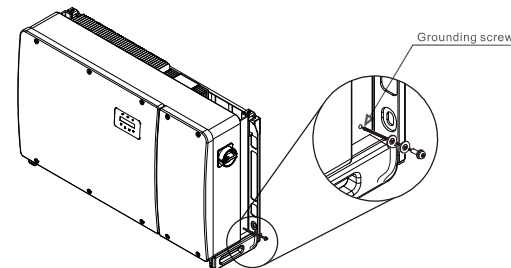

Figure 3.17 Fixed cable
- 6) Connect the grounding cable to the grounding point on the heat sink, and tighten the grounding screw, Torque is 6-8Nm(see figure 3.17).